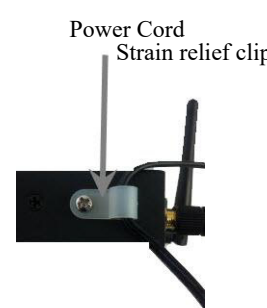

Figure 2
5. Connect the grounding lug (not provided) to the grounding screw, if desired. (Figure 2)